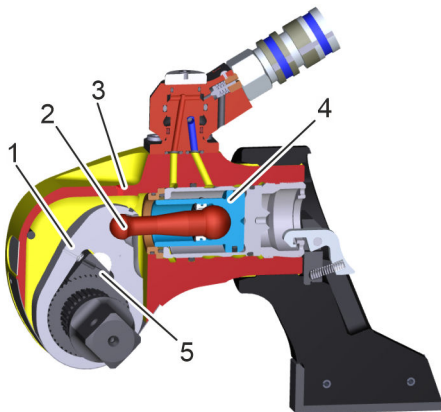
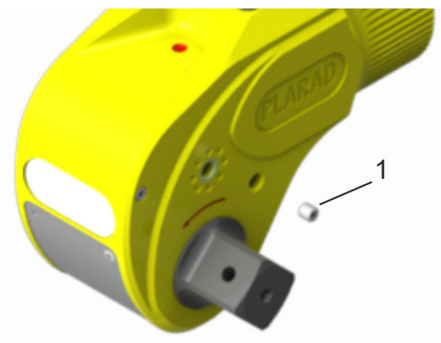

Fig. 29: Lubricating MSX and MX-EC
Fig. 30: Stud bolt (1)
The ball head on the piston rod (Fig. 29/2) in the torque wrench engages in a matching ball socket in the ratchet lever (Fig. 29/1), where it is held in place by a spring bolt (Fig. 29/5). To lubricate these parts, you need to disengage the piston rod (Fig. 29/2) from the ratchet lever (Fig. 29/1) by proceeding as follows:
1. To decouple the ratchet lever, retract the piston (Fig. 29/4). To do so, unscrew the hex socket stud bolt (Fig. 30/1) on the housing's side using the included Allen key.
- 14.** ➤ Screw the stud bolt back into the hole in the side of the housing using the Allen key (Fig. 30).